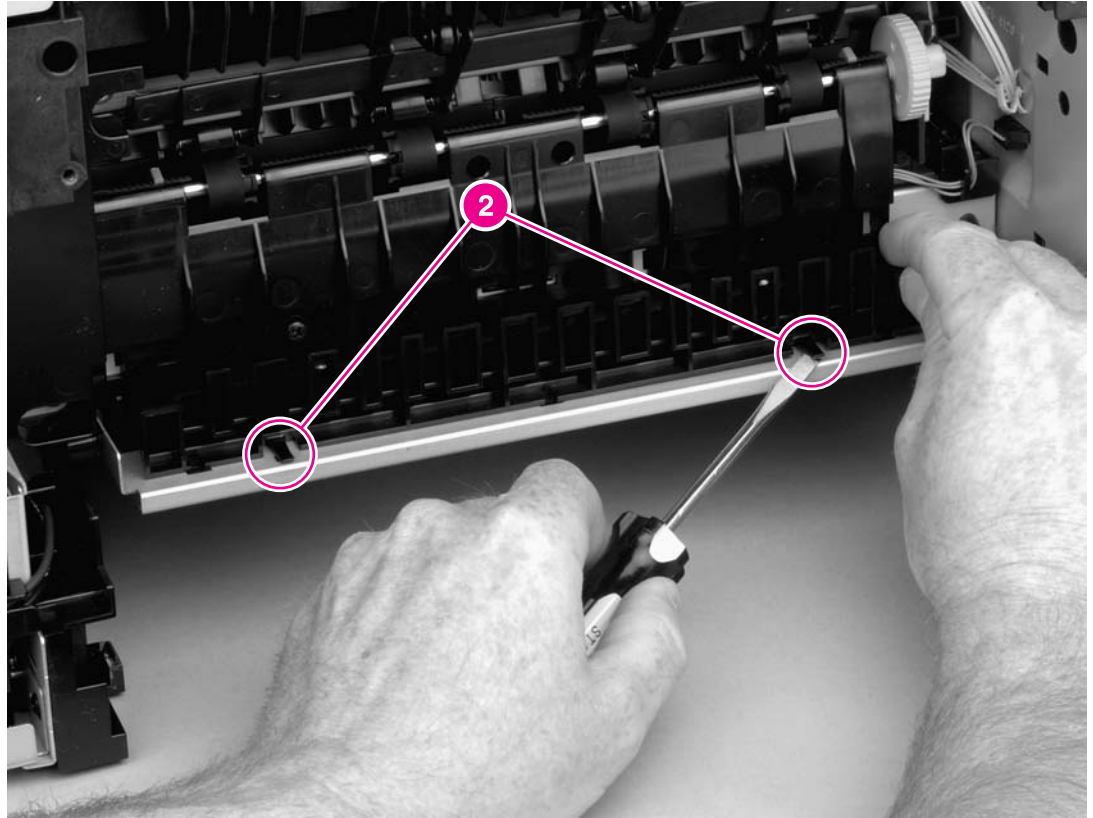

Figure 6-20.
1. Remove the back cover (see Back cover), the I/O cover (see I/O cover), and the duplexer inlet guide (see Figure 6-20. Removing the fuser \(2 of 5\)).